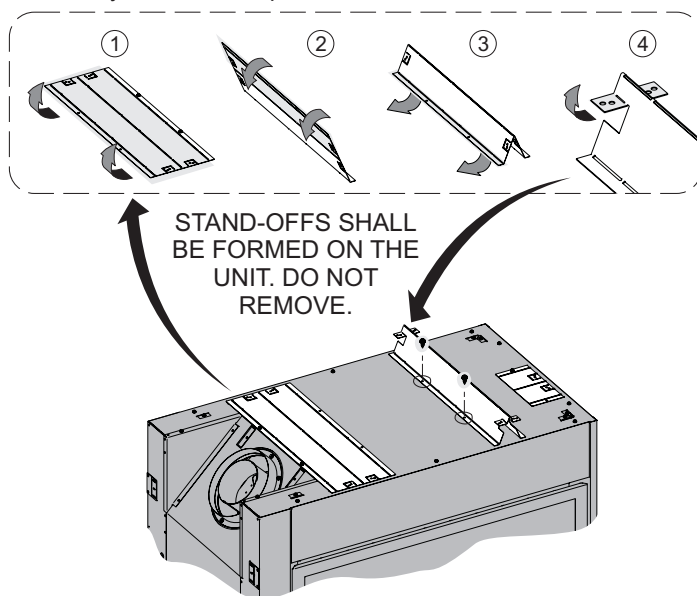

Figure 21
1. Before placing the fireplace inside the frame work, or building the frame work around the fireplace, the top stand-offs must be formed and secured. Form the top stand-offs in the sequence shown in **Figure 21**, and secure them to the firebox outer top using either four (SP) or five (PP) screws from your hardware pack.